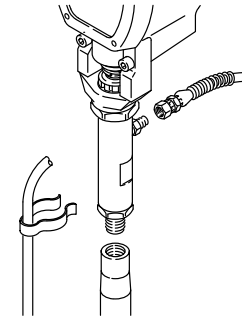

Fig. 12
NOTE: Some parts shown Figures 12 to 15 may look somewhat different from your sprayer.
2. Remove the hose (47), clips and drain tube (101). Remove the suction tube (42); hold the wrench on the pump intake valve (223) to keep the pump from loosening. See Fig. 12.